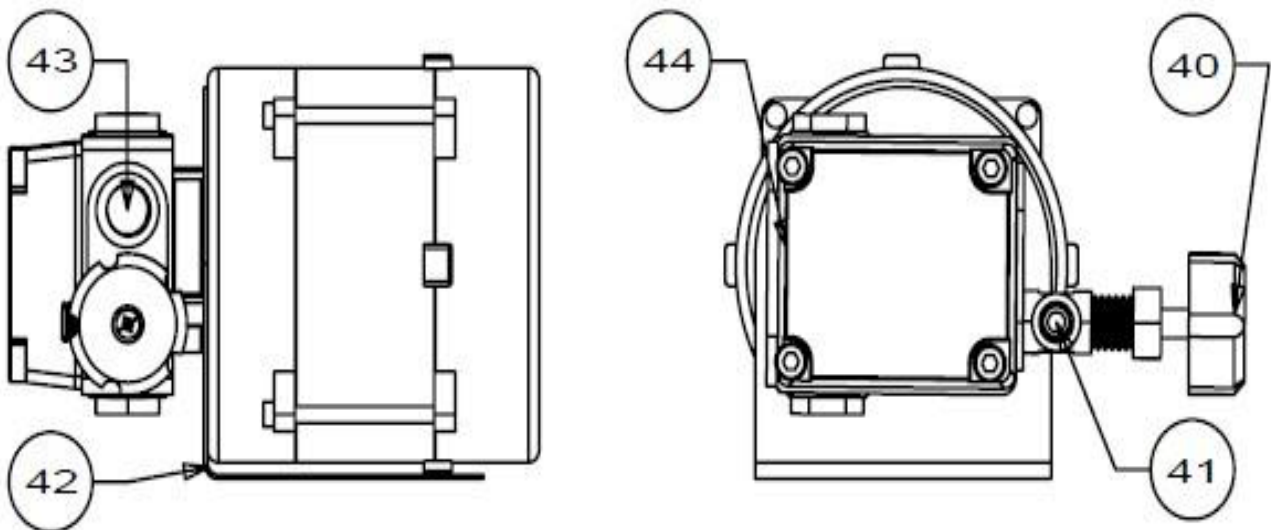

Fig.8
1. Accessories oil pipe connect with Fig.1 - 30 and Fig.8 - 41.
2. Accessories oil pipe connect with Fig.8 - 43 and connect accessories oil filter to Storage oil tank.
In order to reduce the frequent start of the transfer oil pump and instant cooling the oil temperature in heating oil tank, adjust handle no. 40 in Fig. 8. And control inlet oil rate to get the suitable oil flow rate. (With just over burning oil is better)